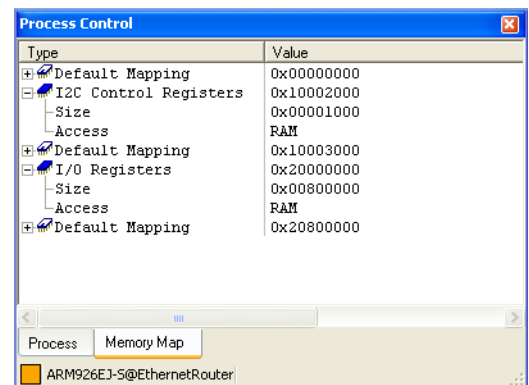

Figure 5-11 New memory map in the Process Control view
2. Select **View** → **Memory Map Tab** from the Code window main menu to display the new memory map. Figure 5-11 shows an example: